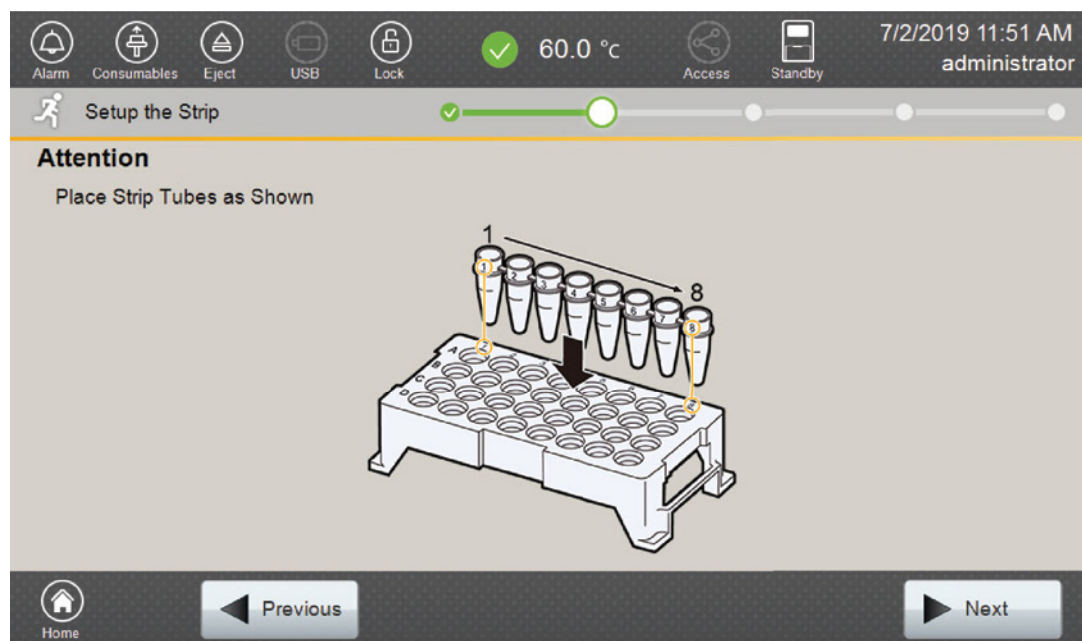
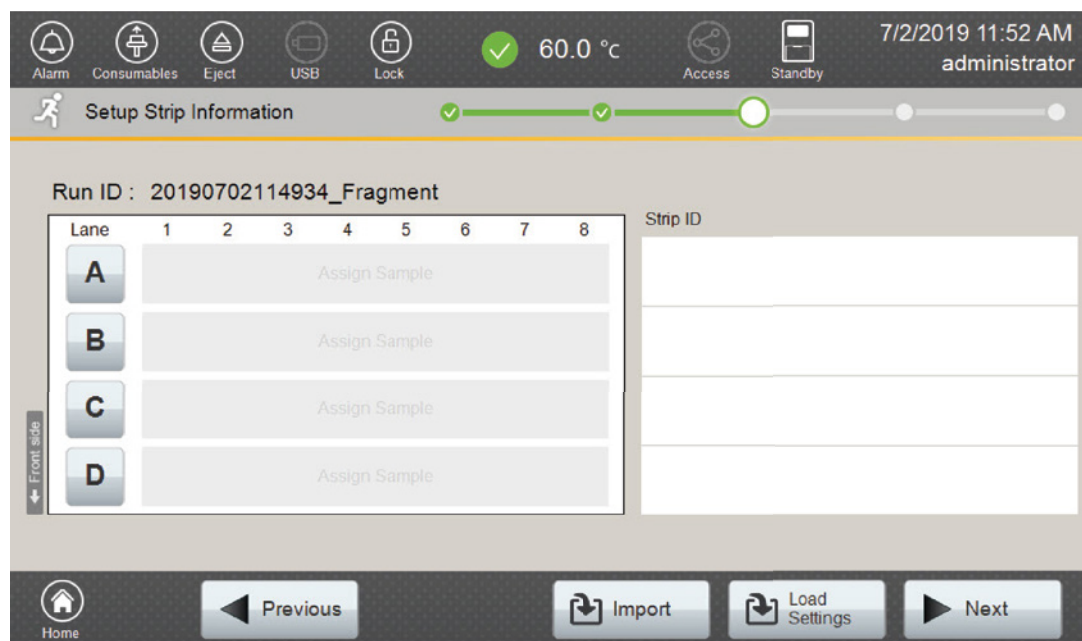

Figure 8. 'Setup the Strip' screen.
Figure 9. 'Setup Strip Information' screen.
6. Follow the message screen for placement of strips into the sample cartridge (Figure 8).
1. Select **Next** on the 'Setup the Strip' screen shown in Figure 8. This will take you to the 'Setup Strip Information' screen shown in Figure 9.